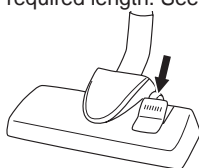

Figure 4 Soft and hard surfaces
4. Press the foot button on the nozzle to set the combi nozzle for use on hard or soft surfaces, see Figure 4. For use on hard surfaces, press the foot button to extend the brushes. Lift the button for use on soft surfaces.